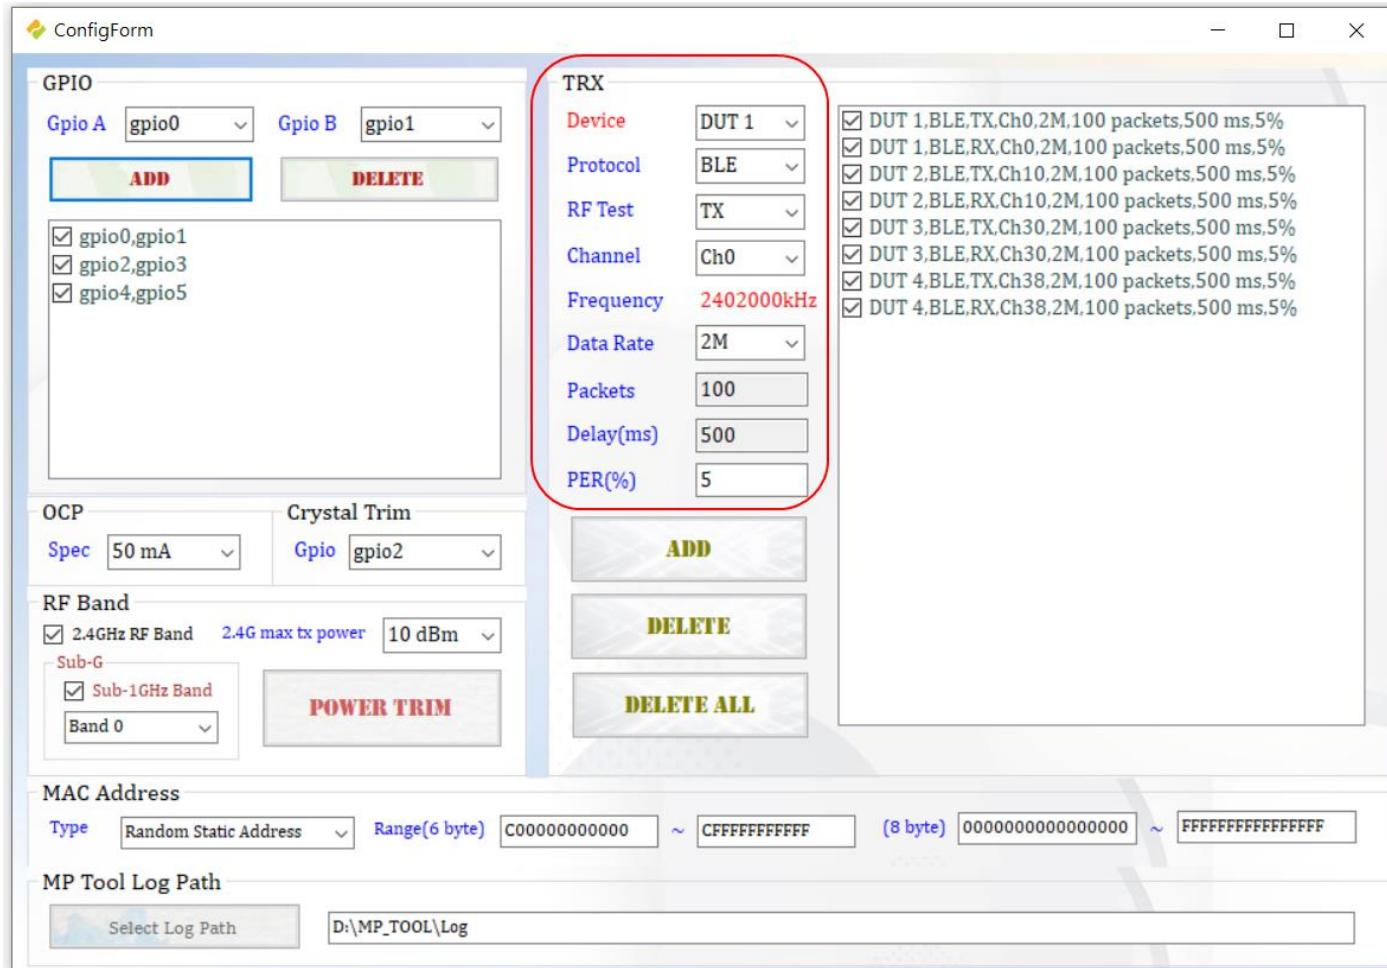

Figure 19. RF TX/RX Test Setting-1
To test Bluetooth®, Zigbee 3.0 & Sub-GHz TX/RX settings, please refer to Figure 19 below.
1. Select bootloader and application image files which have been signed digitally by Security Boot Tool (refer to step 1 and step 2 in Figure 19, MP Sector is no need to be signed)